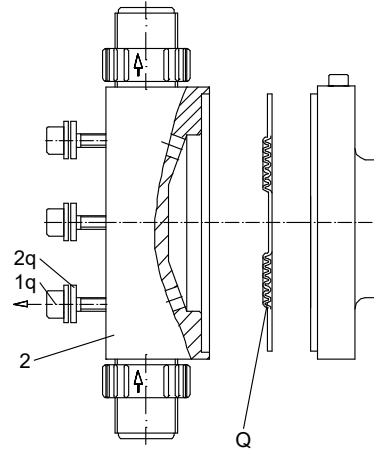

Fig. 39 Replacing a single diaphragm
3. Remove the dosing head (2).
- Remove the diaphragm and fit a new diaphragm (Q) on the suction side. See fig. 39.